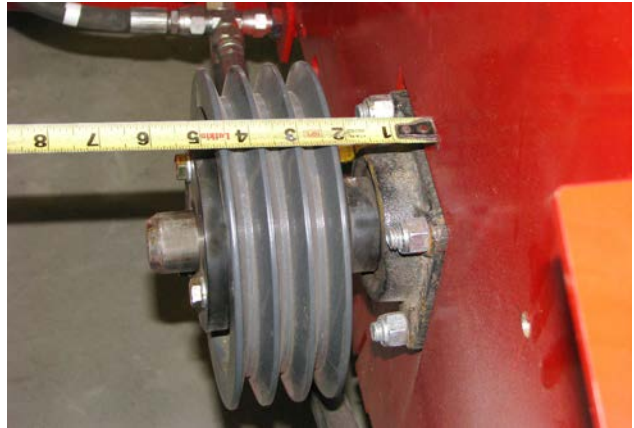

Figure 26: Position the Small Sheave
22. Position the small sheave the same distance from the tub wall as the large sheave, see *Figure 26*.